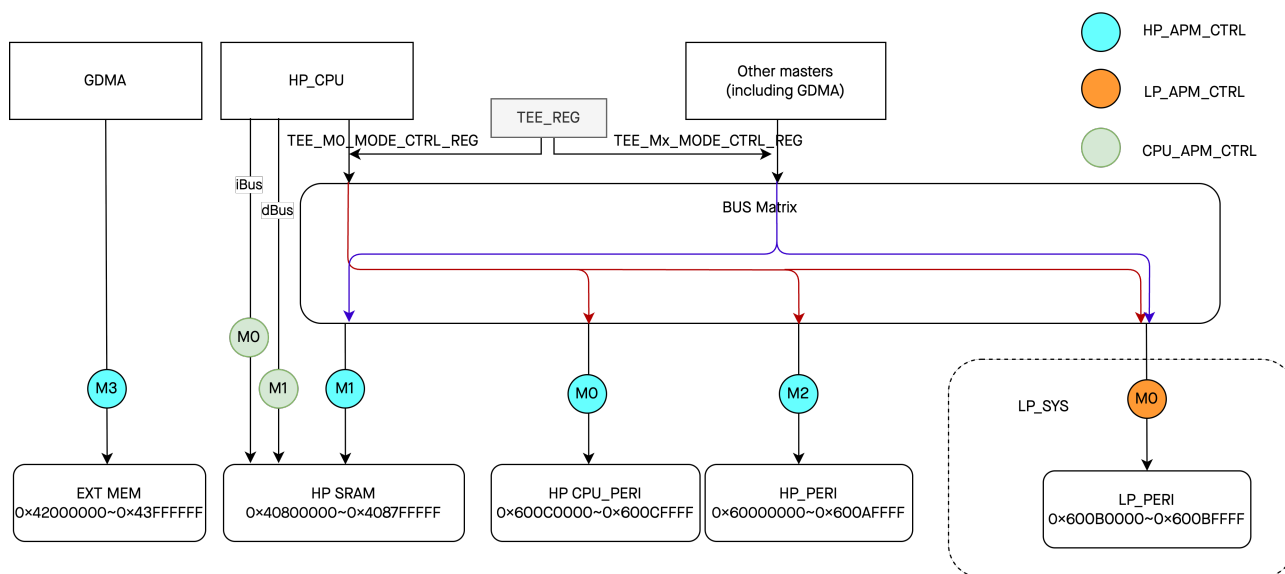

Figure 14.5-1. APM Controller Architecture
Figure 14.5-1 shows the architecture of the APM controller and the access paths managed by it.
- HP_APM_CTRL manages four access paths, namely M0–M3 highlighted in blue in Figure 14.5-1. Enable the permission management of each path by setting `HP_APM_FUNC_CTRL_REG` to 1 (enabled by default).
- LP_APM_CTRL manages one access path, namely M0 highlighted in orange in Figure 14.5-1. Enable the permission management of each path by setting `LP_APM_FUNC_CTRL_REG` to 1 (enabled by default).
- CPU_APM_CTRL manages two access paths, namely M0–M1 highlighted in green in Figure 14.5-1. Enable the permission management of each path by setting `CPU_APM_FUNC_CTRL_REG` to 1 (enabled by default).
The interrupt signals correspond to the controlled access paths shown in Figure 14.5-1. If an illegal access occurs in a controlled access path, the corresponding interrupt will be generated.